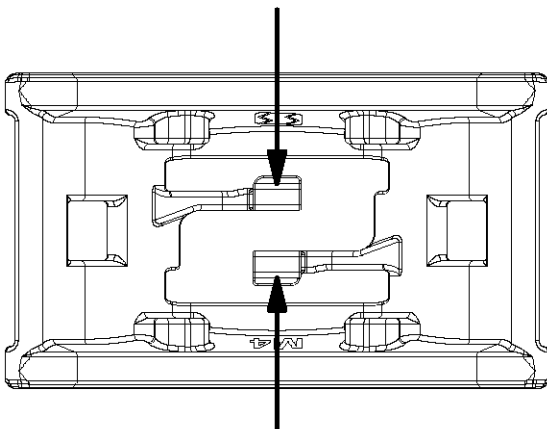
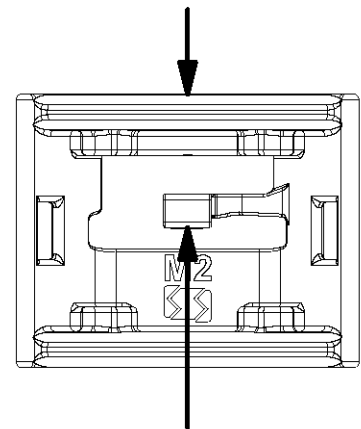

Figure 4.3
Figure 4.4
- 4.4 On standard short and long rails, the Gripper Modules (#9) are removed by pinching the two locking tabs between your thumb and index finger, pushing them towards each other, and pulling the Gripper Modules from the Gripper Module slots (See Figure 4.3). On subcompact and compact rails, the Gripper Modules (#9) are removed by pinching the one locking tab and edge of the Gripper between your thumb and index finger, pushing them towards each other, and pulling the Gripper Modules from the Gripper Module slots (See Figure 4.4).